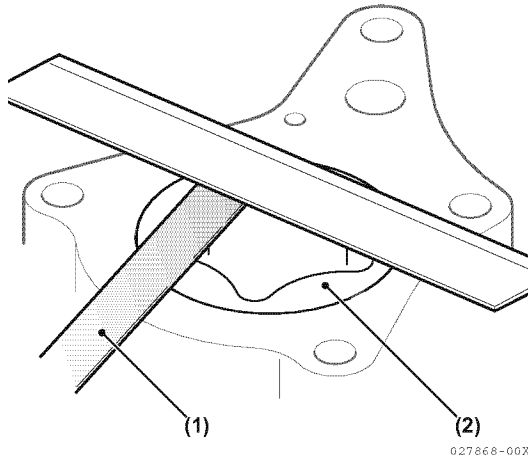

Figure 8-14
- Place a right-angle gauge against the pump body and insert a feeler gauge (Figure 8-14).